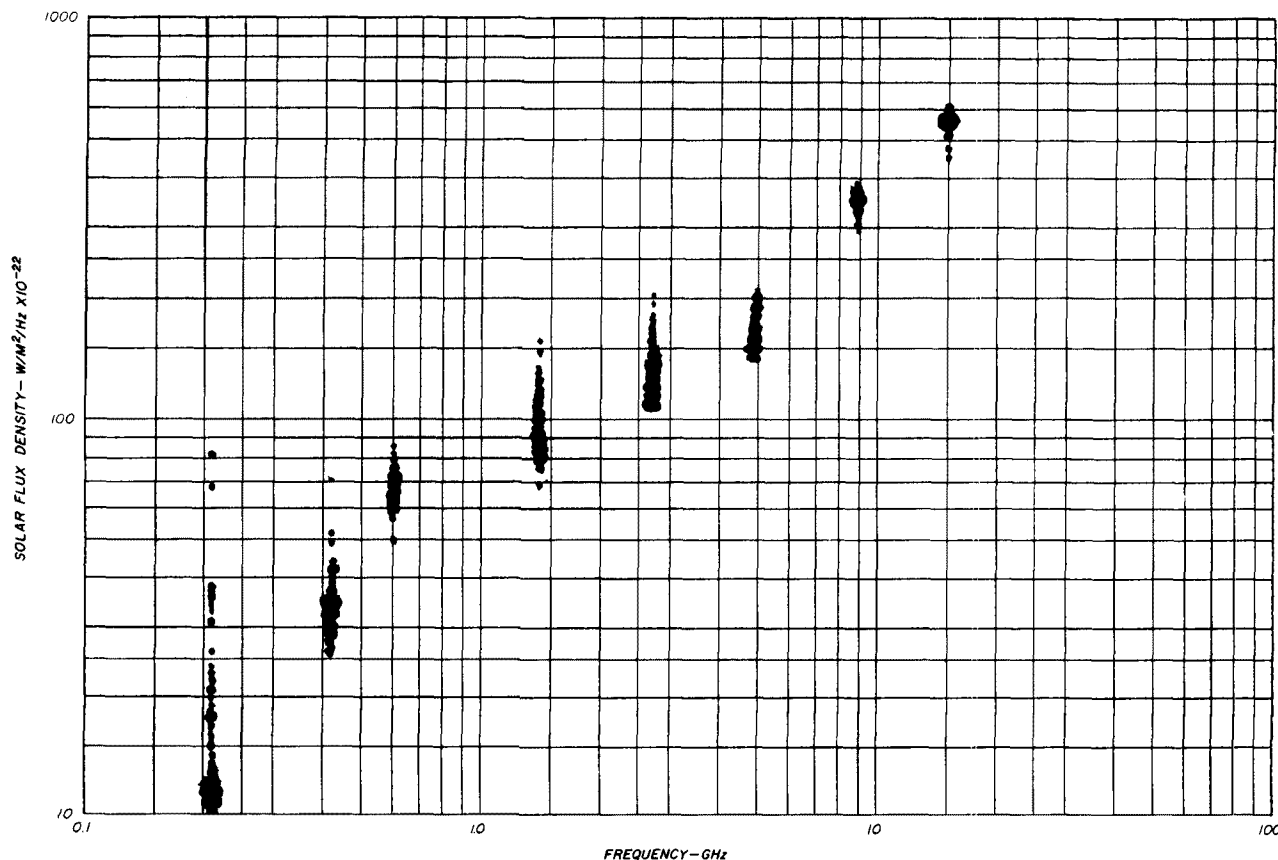

fig. 1. Solar flux density vs. frequency for July through December, 1978.
While developing this system, I performed experiments to determine the ideal angular spacing between the radiators and radial reflectors. The configuration used for these experiments consisted of two slopers; one was pointed directly at a vertically polarized test signal source approximately 0.8 km (0.5 mile) away, and a second was pointed 180 degrees away. Two reflector wires were then placed radially, one to each side, so that the included angles between the radiators and reflectors could be varied in a symmetrical fashion as shown in fig. 1.
1. Source used. The flux density, S , of the sun varies randomly by a factor of two or more. Therefore measurements from the sun may not be accurate within 3 dB unless corrected for actual solar flux at the time of observation (see table 1 and fig. 1). If G/T is large enough to permit radio star measurements, accuracies to within 0.5 dB are attainable
In many typical counter circuits, the clock input to the first decade counter is logically combined with the count gate prior to being applied to the counter. In some cases, the limiting frequency factor is then the external gate and not the first decade counter. Fig. 1 shows a method of using the internal circuitry of the
fig. 1. Schematic diagram of a method for using the internal gating in the 82S90/74S196 counter to eliminate any external clock gates. By using the count gate to control the Count/Load line, the IC will ignore any pulses on the clock line when the counters are used as latches.